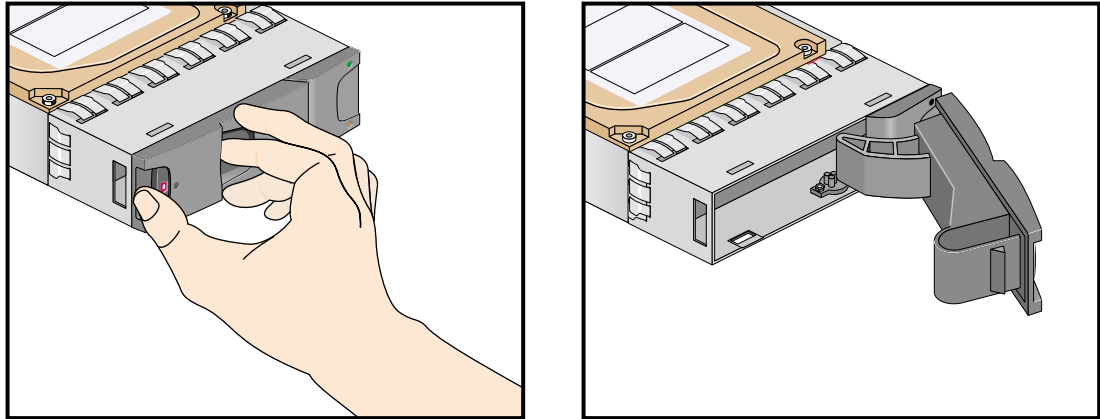

Figure 3-5 Releasing the Carrier Handle
5. Release the handle of the replacement carrier by pressing the latch in the handle towards the right, as shown in Figure 3-5. Insert the carrier into the enclosure.